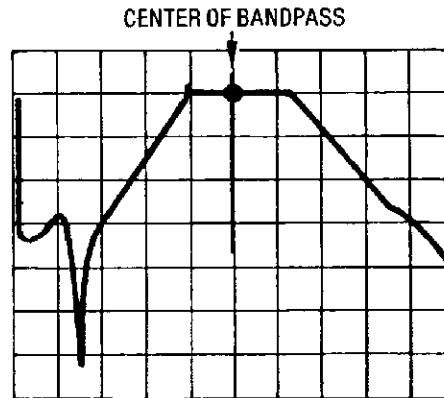

Figure 5-28. YTF Passband Response
13. Set the Signal Generator to 6 GHz and Normal mode. Adjust A5A7R69, B1LO, to center the YTF passband response, as in figure 5-28.